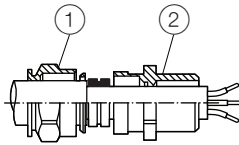

Figure 2: Tighten cable gland
IP rating IP66 / 67 is only achieved by installing the black neoprene sealing ring between the cable gland and the housing and by observing the tightening torque of 3.6 Nm (Figure 2, item ②).
5. Tighten the cable gland until the cable is firmly enclosed by the sealing ring (Figure 2, item ①). Do not tighten more than 1.5--times of the specified torque on the cases (see assembly instructions)!